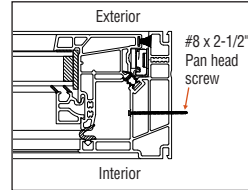
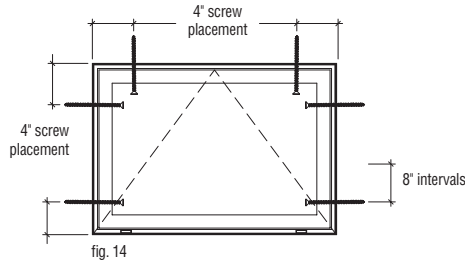

fig. 13
fig. 14
- Pre-drill 1/8" holes in the 6 areas as shown on **fig. 13** and **fig. 14** and then at 8" intervals.
- Fasten the window through the main frame (**fig. 13 & 14**) with #8 x 2-1/2" Pan head screws. Quantity of screws are determined by the size of the window.